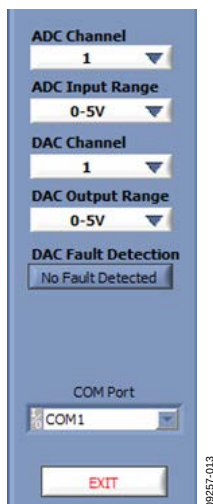

Figure 13. Menu Bar
2. The menu bar on the left of the main window (see Figure 13) allows the user to select the ADC/DAC channel and range. It also allows the user to set the RS-232 communication port of the PC.